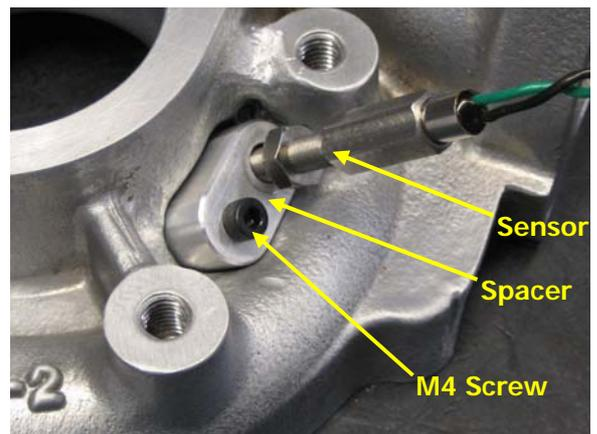

Fig. 3
2. Take your compressor housing and the highlighted layout 776243 (all sheets) to a qualified machine shop. Make sure the machinist is capable of meeting the tolerances on the drawing and knows which row of dimensions to use before agreeing to pay for the work. You may want to supply the machine shop with the spacer, screw and speed sensor so they can test-fit the parts in the housing (see figure 3).
4. Count the number of blades on your compressor wheel, including small (splitter) blades. Record this number below; you will need it later (see figure 3).